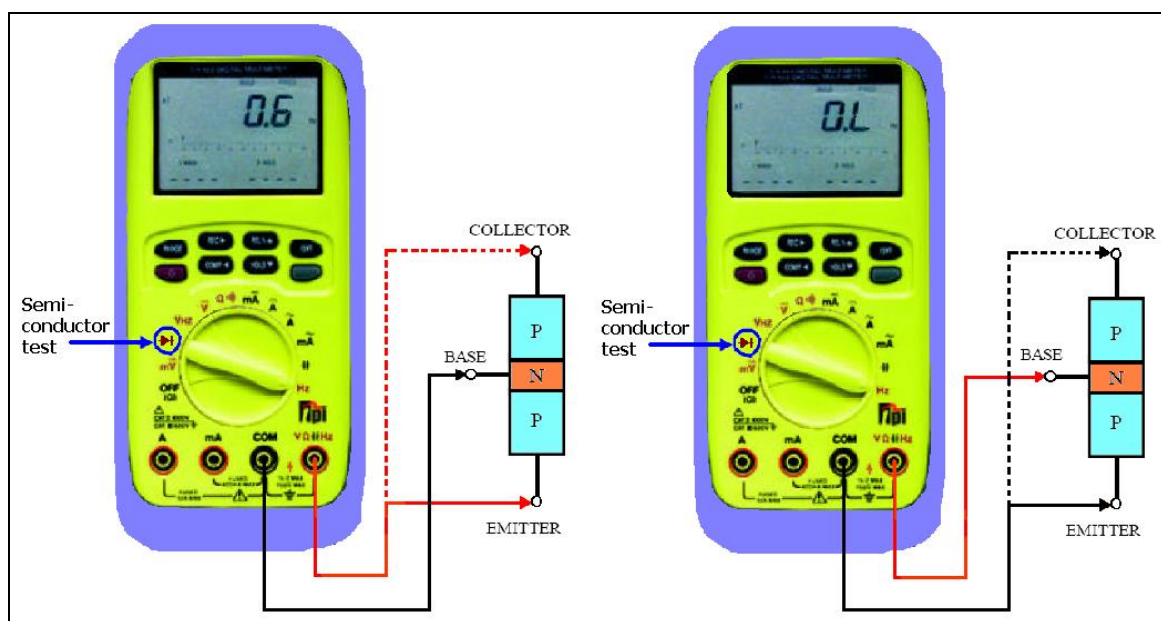

Fig. 3.2-7 PNP Transistor Testing
1. Connect the meter leads with the polarity, as shown in Fig. 3.2-7 and verify that the base-to-emitter and base-to collector junctions read as a forward biased diode: 0.5 to 0.8 VDC.